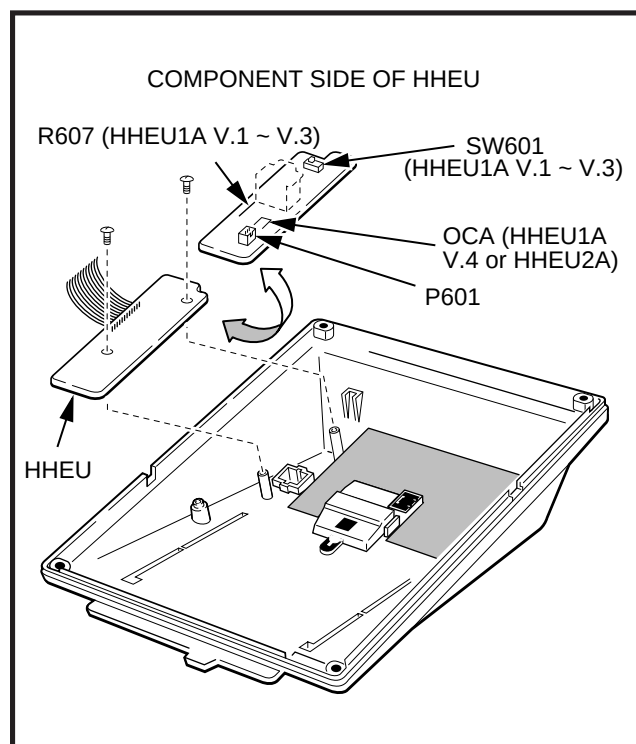

FIGURE 7-10 HHEU INSTALLATION FOR DIGITAL TELEPHONE
- 3) If installing a **V.3** HHEU1, set the **SW601** switch on the HHEU to **HEADSET** for the headset or loud bell application (Figure 7-10). **V.4** HHEU1 and HHEU2 do not have this switch, because both of these upgrades are automatically set for the headset/loud bell application.
connected to the HHEU, cut both sides of the **R607** resistor (Figure 7-10), then remove the resistor to eliminate electrical contact.
- 5B) For the **V.4** HHEU1 and the HHEU2: If only the headset is connected to the HHEU, cut the **OCA** strap (Figure 7-10).
- 6) Position the HHEU PCB on the standoffs inside the base (Figure 7-10), and secure with the two provided screws.